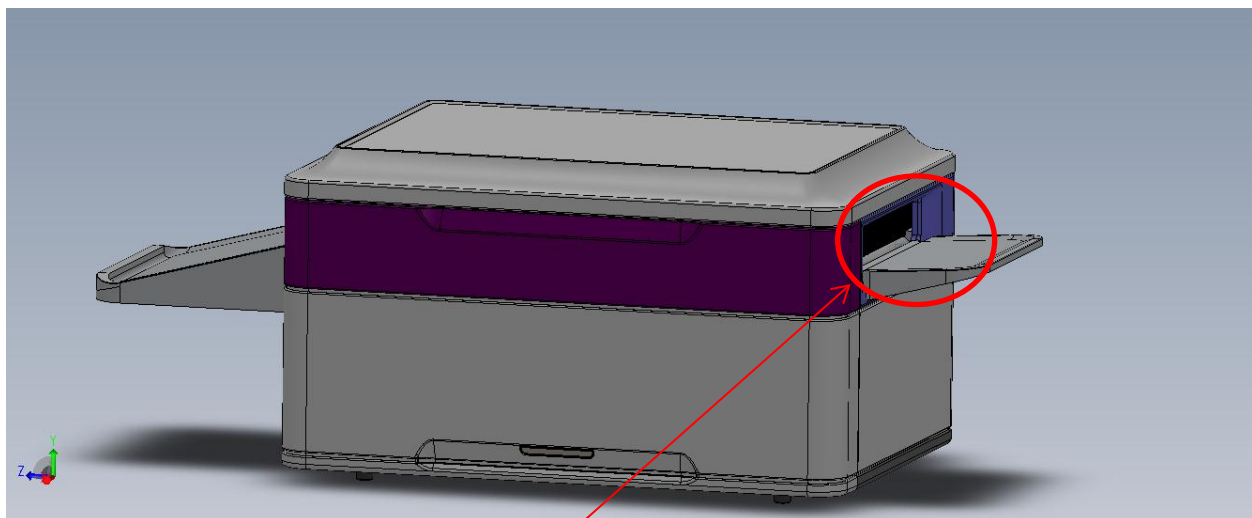

FIGURE 3.INPUT OPENING
- b) Place the hand held device or quartz tray with the device through the Input Opening of ALUVIS as shown in figure 3.